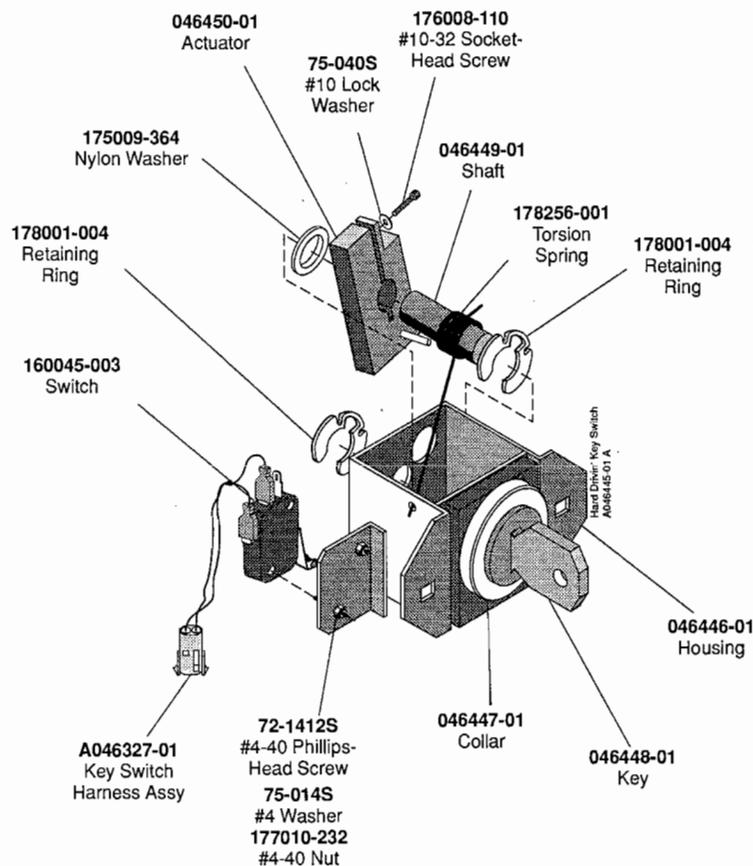

Figure 3-6 Maintaining the Key Switch Assembly
2. Lightly oil the bezel, shaft, and spring of the key switch. See Figure 3-6. Check to make sure the spring is not broken. If it is, then replace the spring following the procedure under *Repairing the Key Switch*.
The key switch assembly is shown in Figure 3-6.